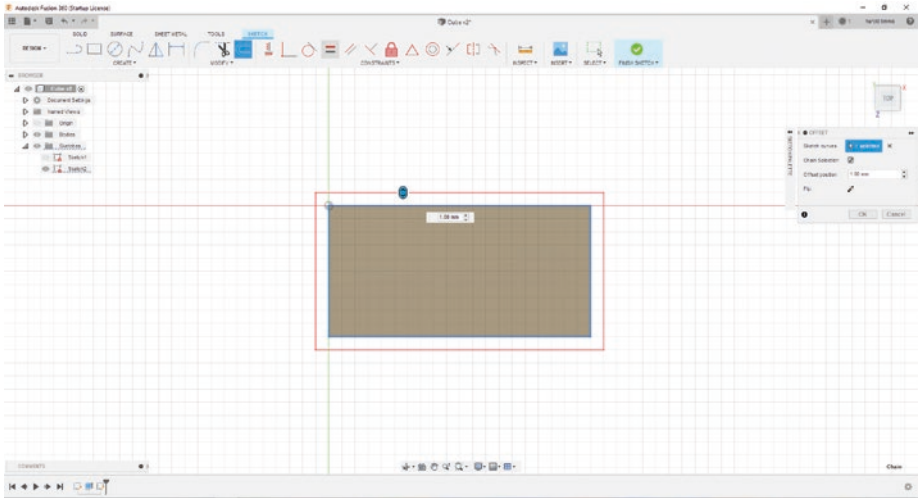

Figure 3-60. Select the Offset function
11. Under the Create menu, select the Offset function and click the edge of the 3D object. See Figure 3-60.